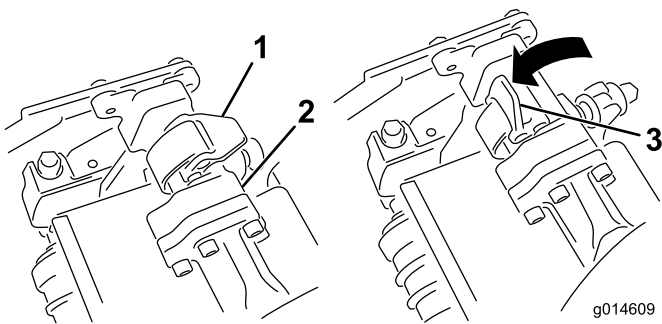
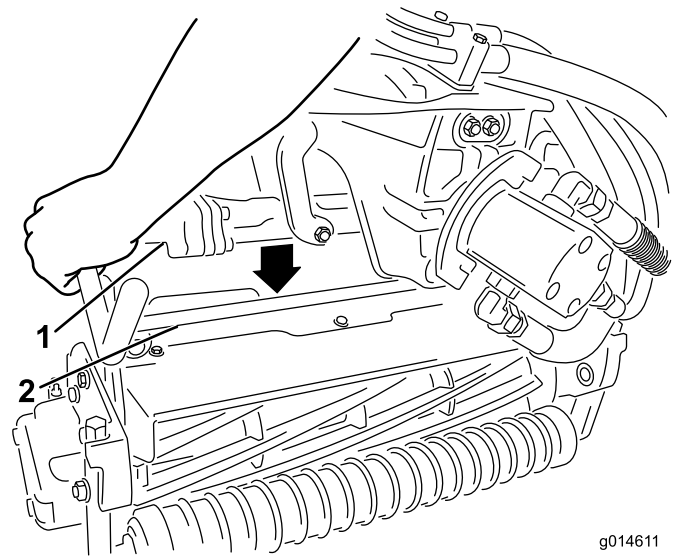

Figure 33
Figure 34
3. With the latches on the suspension-arm bar pointing up (i.e., open) (Figure 33), push the suspension arm down so that the bar fits over the bar across the top of the cutting unit (Figure 34).
4. Close the latches down and around the cutting-unit bar and lock them in place (Figure 33).
4. Open the latches on the suspension-arm bar of the cutting unit you are removing (Figure 33).